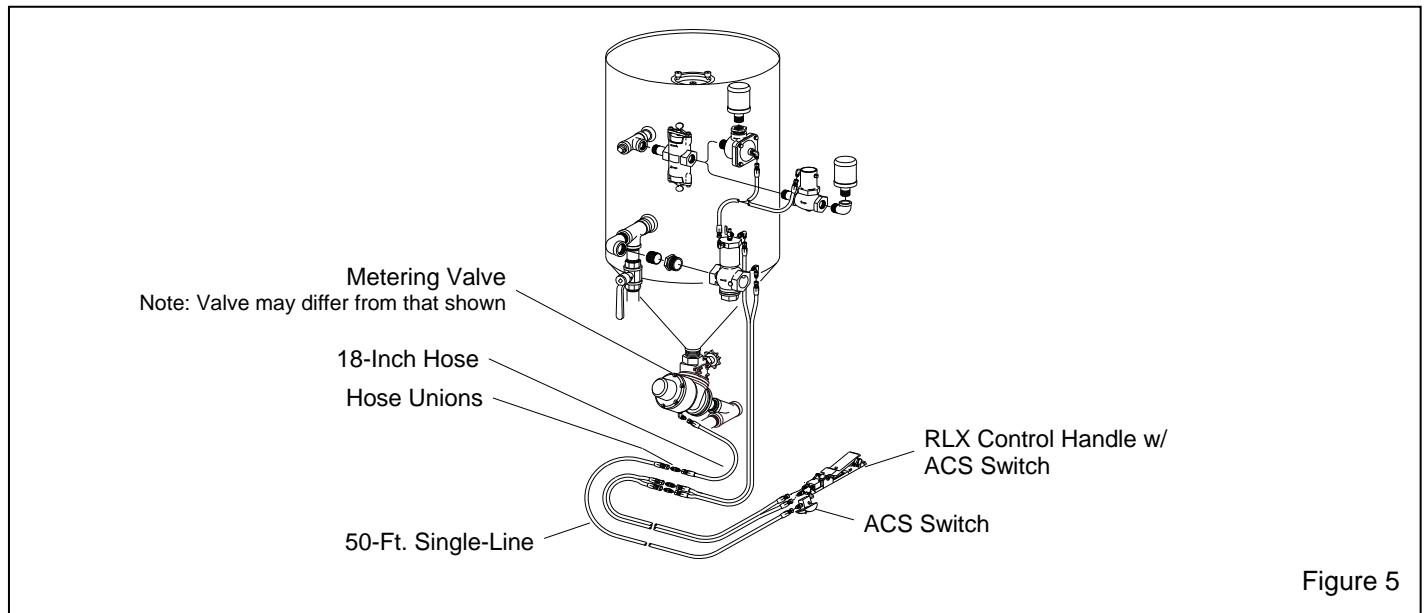

Figure 5
**1.3.4.2** Parts used with an optional ACS system are shown in Figure 5. In addition to the standard remote controls, an ACS system also includes a 50-ft. single-line hose, and additional 18-inch-long interconnecting hose, an RLX control handle with ACS air switch assembly, and pneumatically-operated metering valve. The metering valve supplied with the system may differ from the one shown. **NOTE:** A separate owner's manual is supplied with the valve.
## 2.5 Set Up for Optional ACS Ref. Figure 5